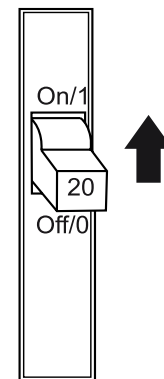

Figure 69. GFCI Circuit Breaker
2. Place a **GFCI circuit breaker** (Figure 69) in the **ON** position.